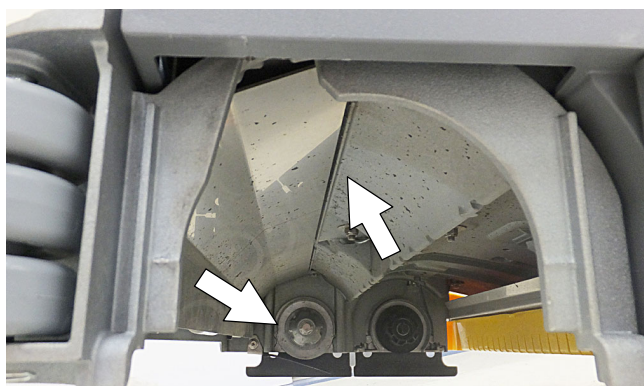

FIG. 113
5. Cylindrical scrub head - Remove debris buildup from underside of scrub head, including the idler plates and drive hubs (Figure 113).